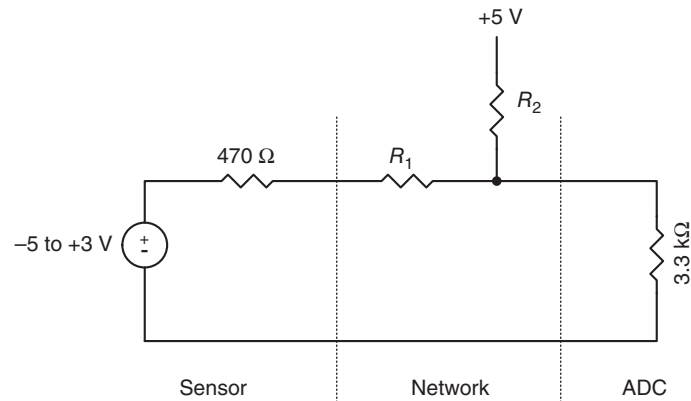

Figure 1.11. Circuit for Problem 1.2.
- 1.2** A sensor produces a voltage between -5 and $+3$ V. The output resistance of the sensor is $470\ \Omega$. The sensor must be interfaced to an ADC with an input range of 0 to $+3.3$ V and an input resistance of $3300\ \Omega$. Determine the values of R_1 and R_2 for the interface network shown in Figure 1.11. Check your work by analyzing the resulting network.